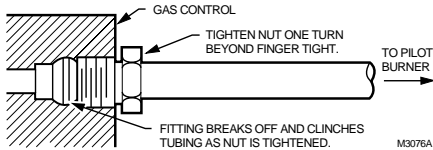

Fig. 7. Always use new compression fitting.
- Push tubing into the pilot gas tapping on the outlet end of the control until it bottoms. While holding the tubing all the way in, slide the compression fitting into place and engage threads—turn until finger-tight. Then tighten one more turn with wrench. Do not overtighten. Refer to Fig. 7.